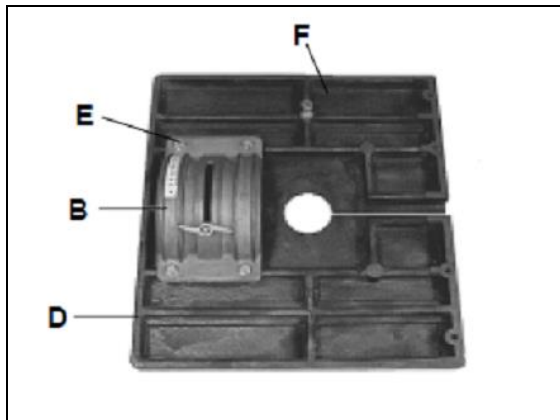

Fig 3
Fit the upper table trunion casting (B, Fig 3) to the underside of the bandsaw table (D) using the 4 - M8 x 16 hex head set screws (E) and washers, ensuring that the angle tilt scale is closest to the edge of the table.